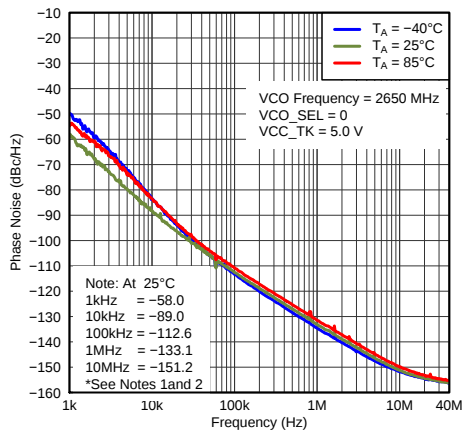
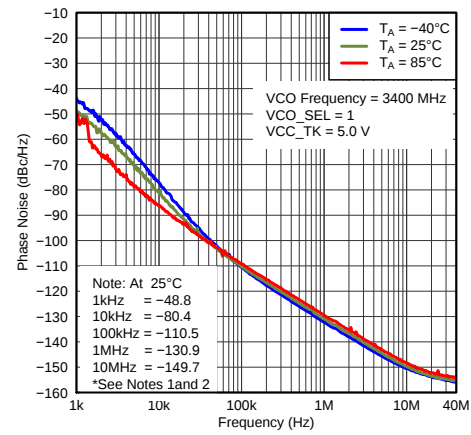
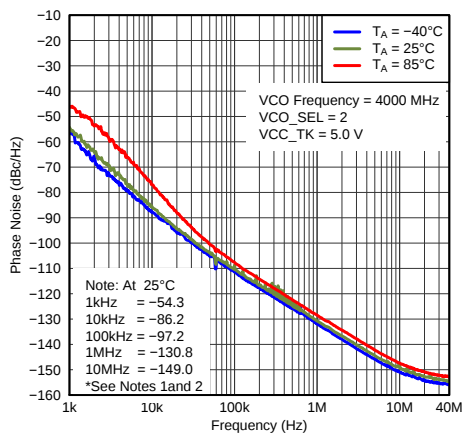

Figure 11. Open-Loop Phase Noise vs Temperature (VCO\_SEL = 0 and VCC\_TK = 5 V)
Figure 12. Open-Loop Phase Noise vs Temperature (VCO\_SEL = 1 and VCC\_TK = 5 V)
Figure 13. Open-Loop Phase Noise vs Temperature (VCO\_SEL = 2 and VCC\_TK = 5 V)
| Open-Loop Phase Noise                             | vs Temperature (1)(2)           | Figure 11, Figure 12, Figure 13, Figure 14                                  |